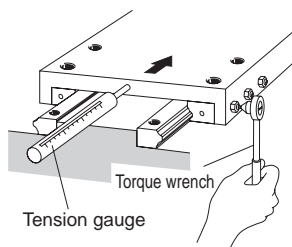

Fig.20
- (5) Secure each LM block by gradually tightening the two LM block mounting bolts, which have temporarily been fastened, while sliding the table. (Fig.20)